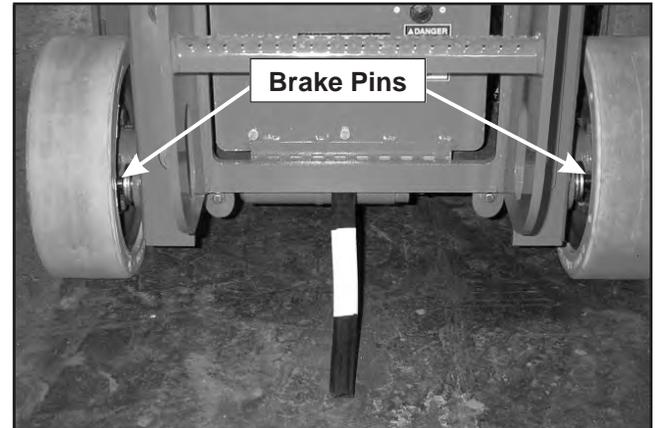

**Figure 9.3—Platform Extend Handle**
2. Remove the snapper pin and push on the handles (refer to Figure 9.3) to extend the deck.